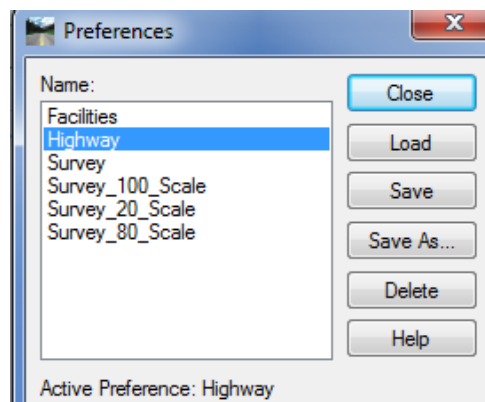

Figure 1-13 InRoads Preferences Dialog Box
- F. In the Preferences box, click on the required discipline name (Highway for this lab). Select **Load** and **Close**. See Figure 1-13